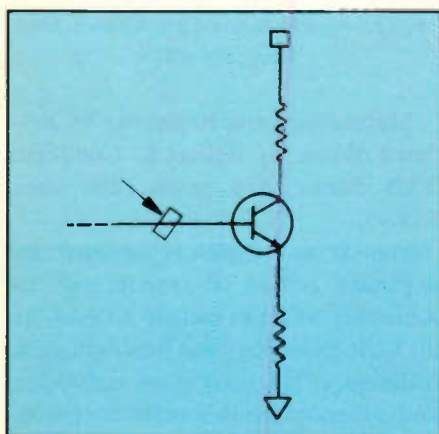

Figure 2
4. In the circuit of Figure 2 the arrow points to a component that acts like